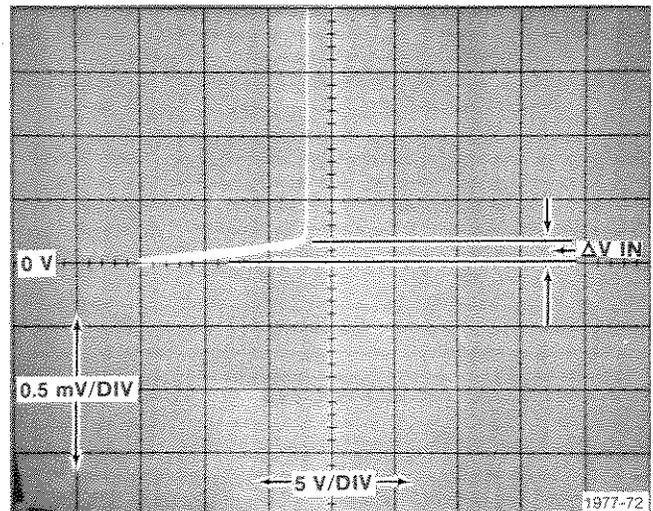

Fig. G-9. - Supply rejection ratio.
- c. Change the 178 FUNCTION switch to -PSRR. Press the DISPLAY—ZERO and Erase pushbuttons. From the display that returns, calculate the -PSRR in the same manner that +PSRR was calculated in part b above (see Fig. G-9).